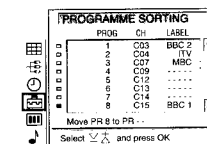

Fig. 14
- Select »Programme Sorting« with Δ or ∇ - and press OK. The PROGRAMME SORTING menu appears. (See Fig. 14.)